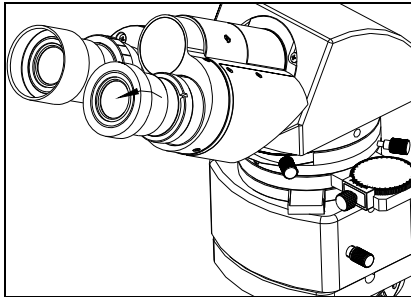

Fig.20
(1) Turn down the eye-cap if the user is wearing glasses, so that it can prevent the glasses touching the eyepieces and avoid damaging to both glasses and eyepieces.
(2) Open the eye-cap if the user doesn't wear glasses, so that it can prevent stray light disturbing the observation. (See Fig. 20)